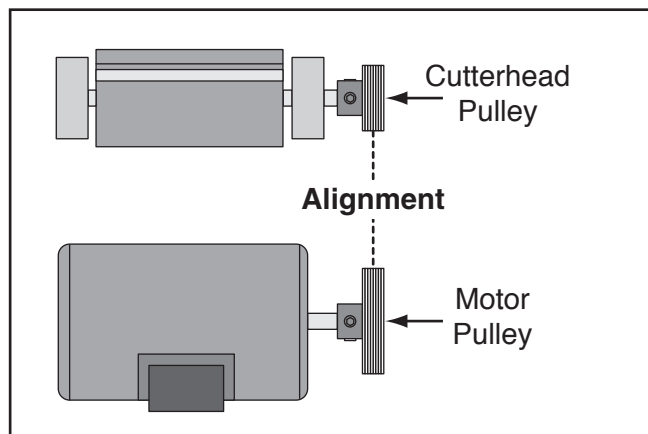

Figure 42. Pulleys aligned.
2. Visually check alignment of cutterhead and motor pulleys, as illustrated in **Figure 42**.